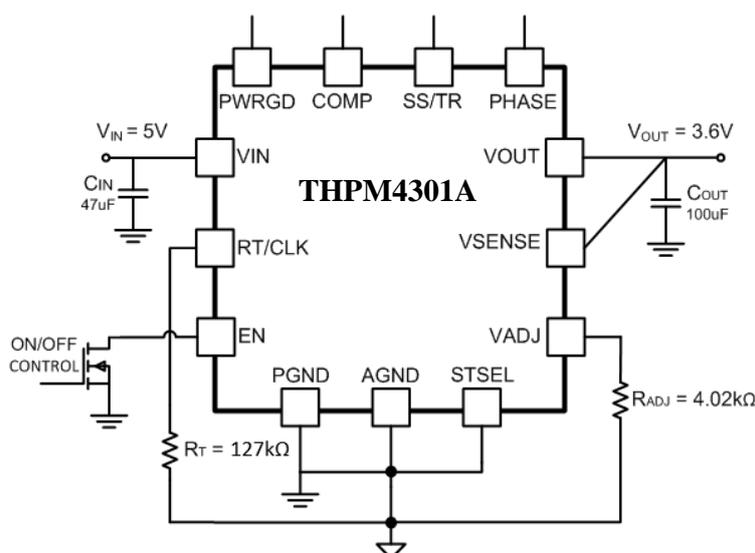

Fig. 23 Typical Schematic  $V_{IN} = 4.4V$  to  $6.0V$ ,  $V_{OUT} = 3.6V$ ,  $F_s = 750kHz$
Fig. 23 shows a typical schematic for a 5V input, 3.6V output application using THPM4301A. The adjustment resistor,  $R_{ADJ}$ , is selected as 4.02k $\Omega$  calculated based on Equation (1). In this example, the switching frequency is selected as 750kHz by connecting the timing resistor of 127k $\Omega$  between RT/CLK pin and AGND pin.